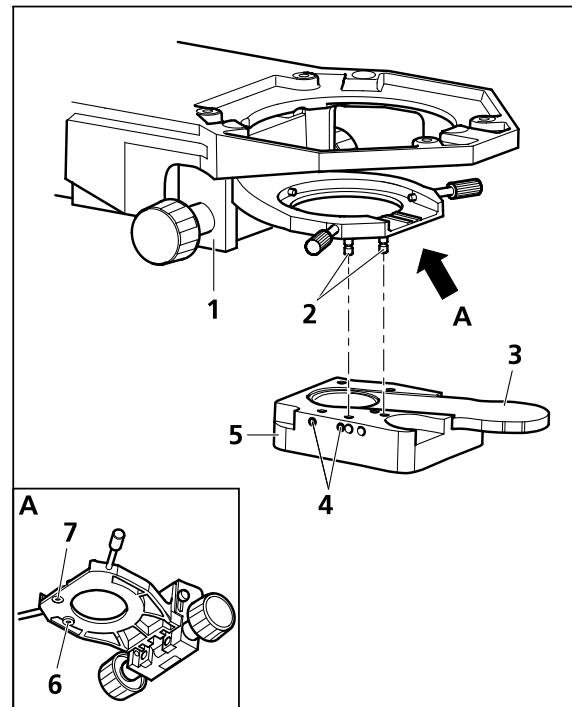

Fig. 3-16 Mounting the LED illuminator on the condenser
- Screw the bolt (Fig. 3-16/2) by hand into the threaded holes on the bottom of the condenser carrier (Fig. 3-16/6 and 7).
- Hold the LED illuminator (Fig. 3-16/5) parallel to the bottom of the condenser carrier (Fig. 3-16/1), pin it upward onto the bolts (Fig. 3-16/2) and lock it with the screws (Fig. 3-16/4) on the left side of the LED illuminator.
- Slide the slider with the diffusion disk (Fig. 3-16/3) into the LED illuminator or, for transmitted light polarization contrast, slide in the polarizer for LED (427708-0000-000).